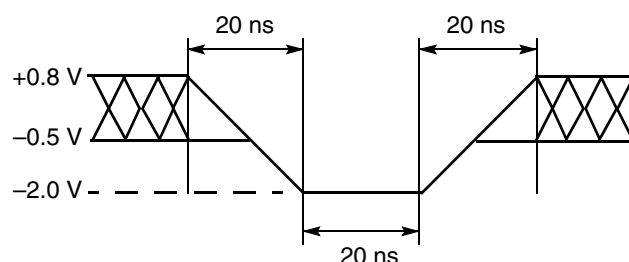
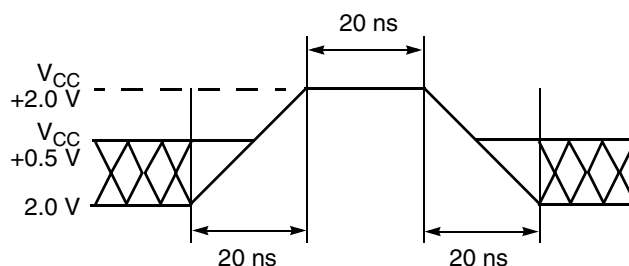

Figure 9. Maximum Negative Overshoot Waveform
Figure 10. Maximum Positive Overshoot Waveform
1. Minimum DC voltage on input and I/O pins is -0.5 V. During voltage transitions, input and I/O pins may overshoot V_{SS} to -2.0 V for periods of up to 20 ns. See Figure 9. Maximum DC voltage on output and I/Os is $V_{CC} + 0.5$ V. During voltage transitions input and I/Os may overshoot to $V_{CC} + 2.0$ V for periods up to 20 ns. See Figure 10.
2. Minimum DC input voltage on pins A9, OE#, and RESET# is -0.5 V. During voltage transitions, A9, OE#, and RESET# may overshoot V_{SS} to -2.0 V for periods of up to 20 ns. See Figure 9. Maximum DC input voltage on pin A9 and OE# is +13.0 V which may overshoot to 14.0 V for periods up to 20 ns.